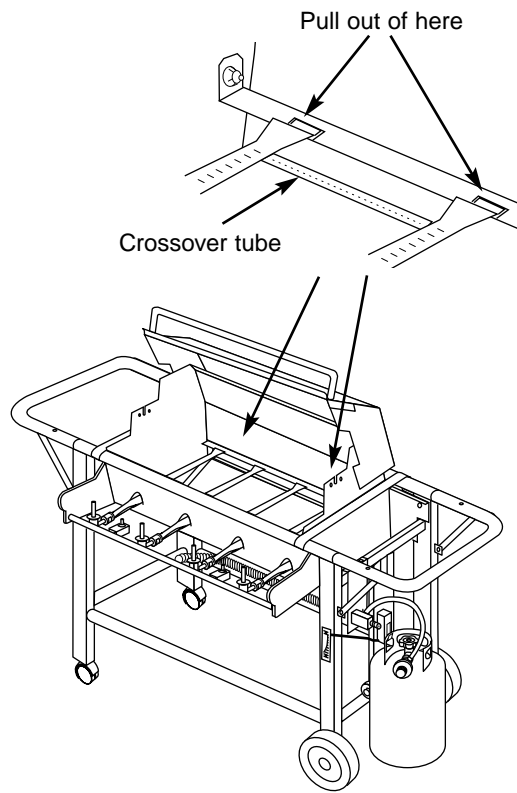

Figure 13
10. Slide the burner assembly from each Heat Zone. The left and right burners are connected by the Crossover tube. Figure 13 (a).